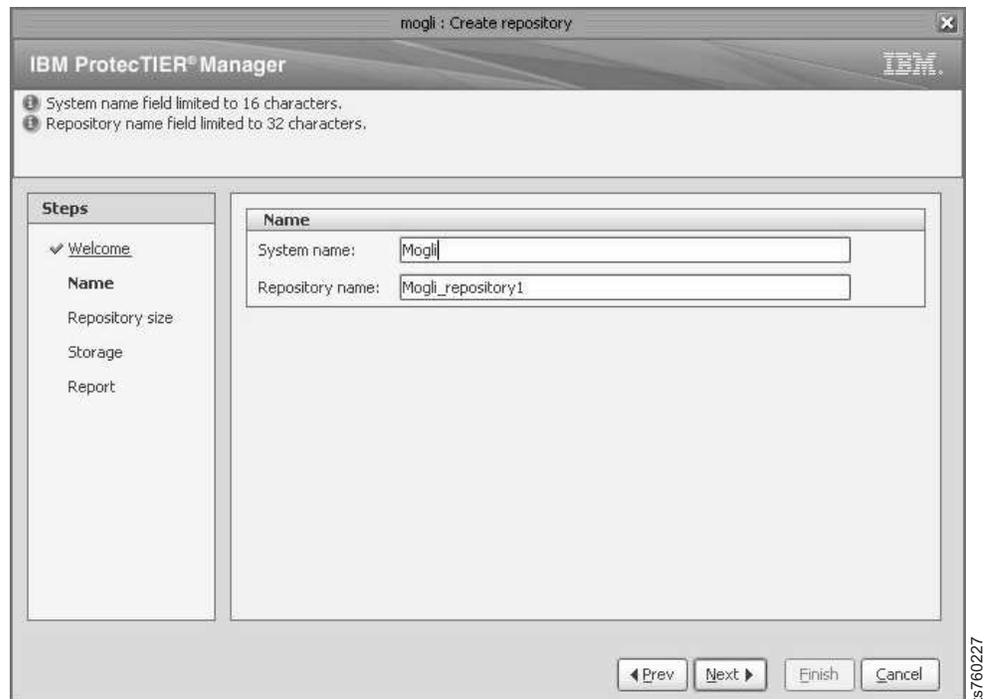

Figure 26. Create Repository Name window
4. Read the information that is presented in the Welcome window, then click **Next**. The Create Repository Name window opens. See Figure 26.